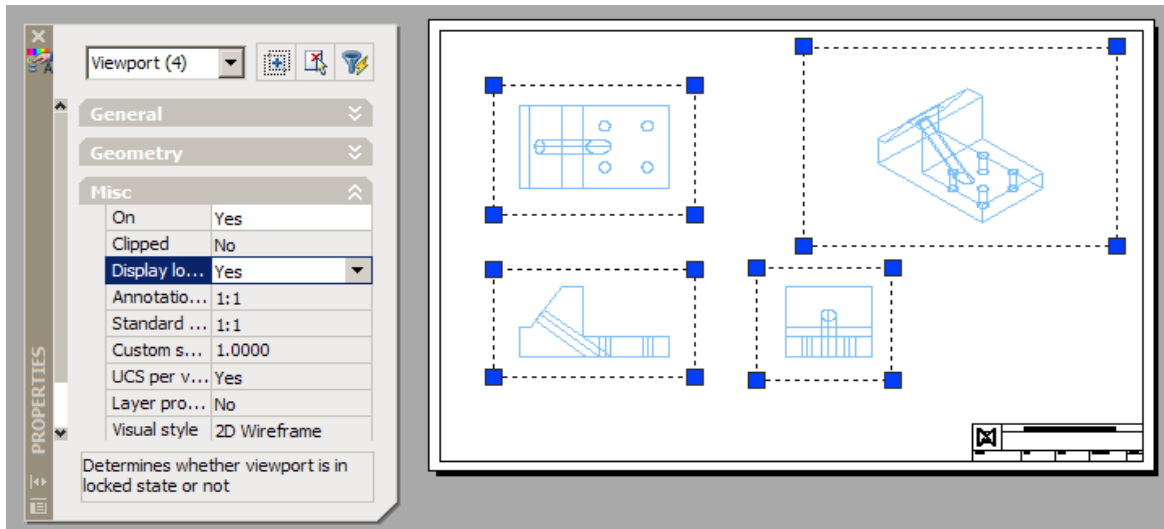

Figure Step 12
Step 12 Using the UNITS command, set the length precision to 8 decimal places. Open the Properties window and select all four viewports as shown in Figure Step 12. Check that the scale of all views is set to 1, then lock their display.